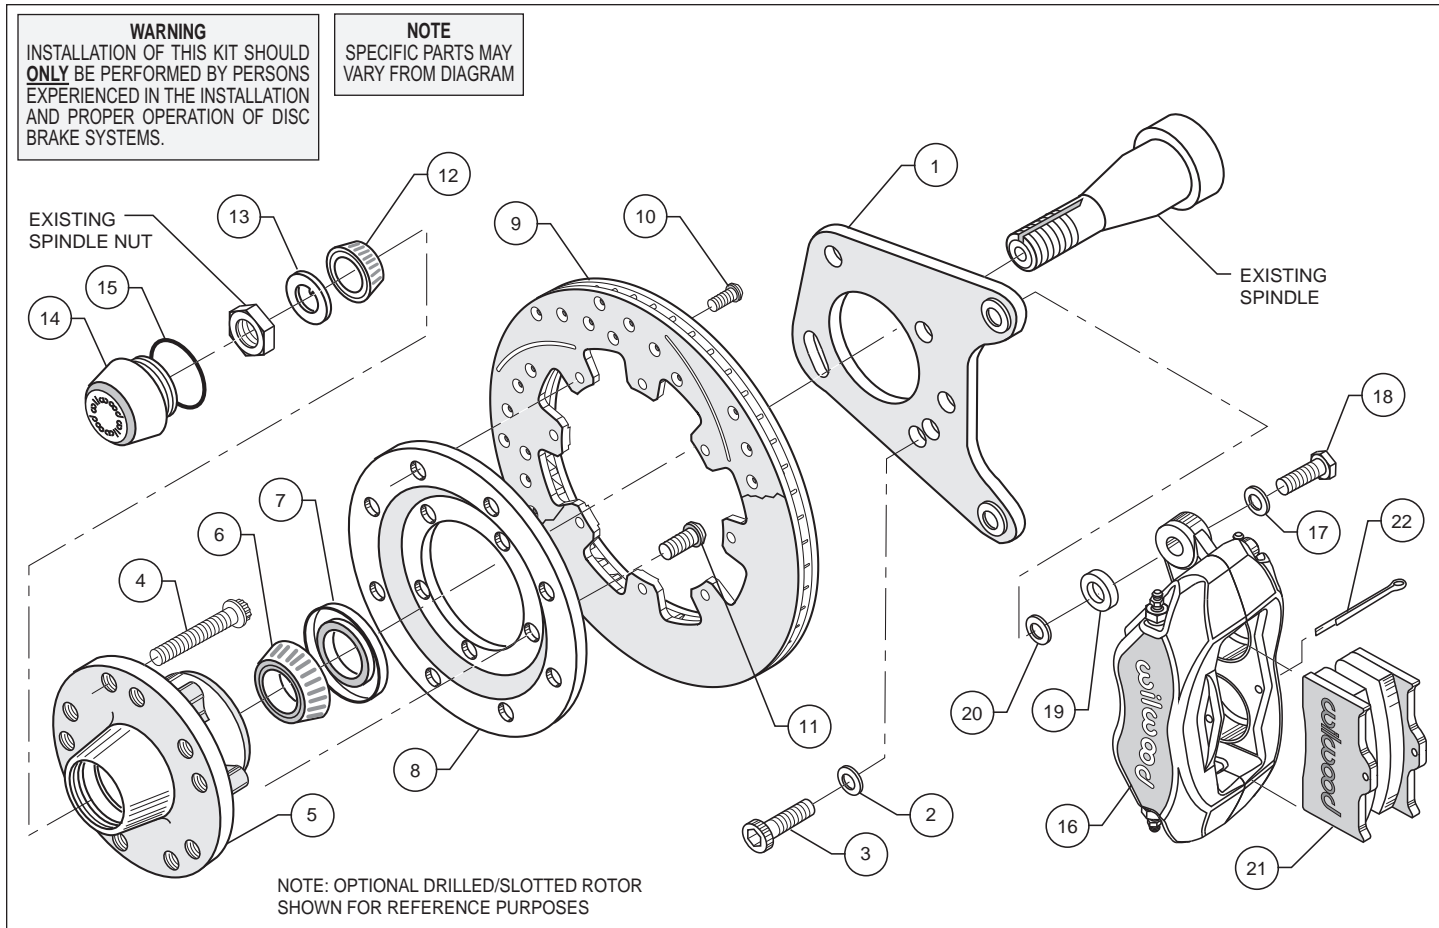

Figure 1. Typical Installation Configuration
- Position the caliper mounting bracket (1) on the spindle. **NOTE:** Be sure the heads of the caliper bracket (1) insert nuts are facing outward toward the wheel. Place one washer (2) on each of the three caliper bracket bolts (3). Mount bracket to the dust plate face of the spindle and align the three 3/8-16 holes in the spindle with the corresponding holes in the bracket (1). Apply red *Loctite*® 271 to all three bolt threads (3) and install. Torque bolts (3) to 22 ft-lb.
- Install wheel studs (4) into the hub (5). Torque to 77 ft-lb. **NOTE:** There are two lug patterns of five holes each in the hub (5 x 4.50 and 5 x 4.75). Make sure of the correct hole pattern for the wheel application before installing the studs into the hub.
- Orient the rotor (9) and the rotor adapter (8) as shown in Figure 1. Attach the rotor to the adapter using bolts (10). Using an alternating sequence, apply red *Loctite*® 271 to the threads, and torque to 25 ft-lb.
- Mount the adapter/rotor assembly (8/9) to the hub (5) using bolts (11), as shown in Figure 1. Using an alternating sequence, apply red *Loctite*® 271 to the threads, and torque to 45 ft-lb.
- Pack the large inner bearing cone (6) with high temperature disc brake bearing grease (available from your local auto parts store) and install into the backside of the hub (5).
- Install the grease seal (7) by pressing into the backside of the hub (5).
- Pack the small outer bearing cone (12) with high temperature disc brake bearing grease and install into front of hub (5). Slide the hub assembly (5, 6, 7 and 9) with outer bearing cone (12) onto the spindle. Secure using spindle washer (13), stock adjusting nut and nut locking device. Adjust bearings per Original Equipment Manufacturer (OEM) specifications.